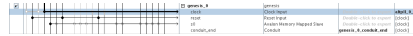

Figure 6: Genesis Component Signals
5. Add the custom component to your system. Connect clock, s0, and reset appropriately. Ensure that conduit\_end is exported properly. An example of this configuration is shown in figure 6.